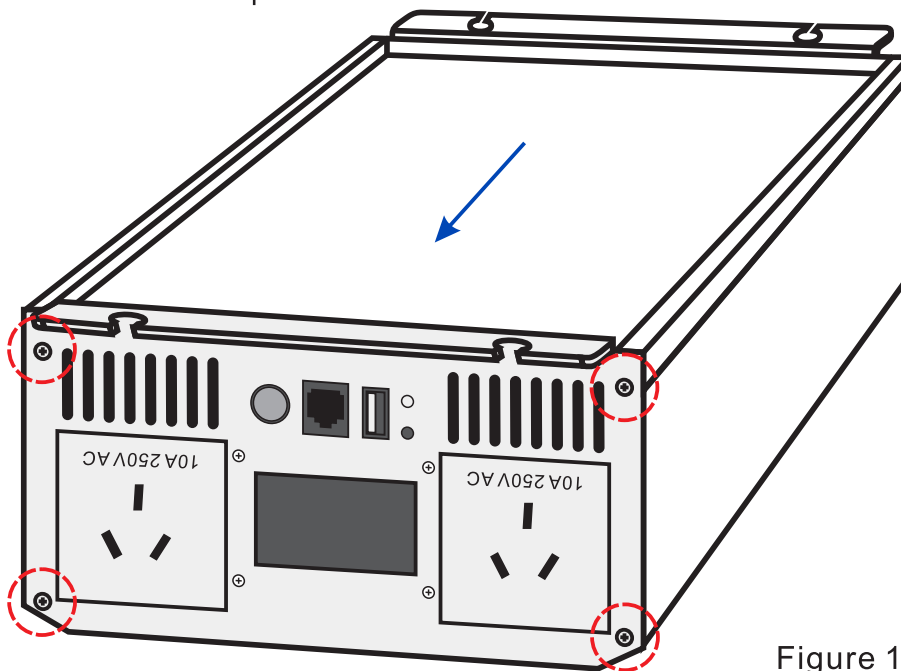

Figure 1.
3. Remove all screws on the AC end panel and press the switch to turn off the inverter(see Figure 1.).
4. Slide out the bottom plate to the direction of the AC end panel(see Figure 1.).